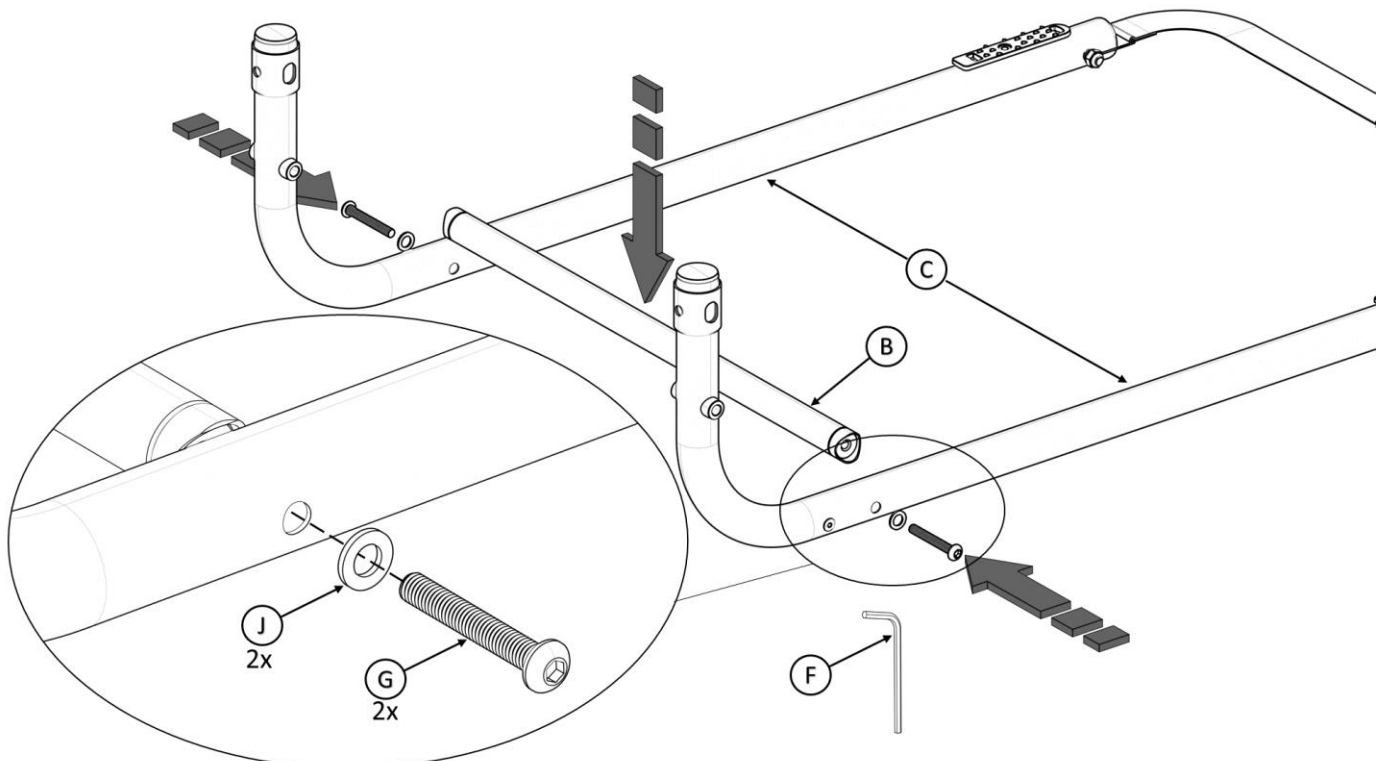

FIGURE 2
2. Align **B** with the holes in **C** as shown in *FIGURE 2*. Place **J** over hole and insert **G**, secure with the tool provided (**F**).